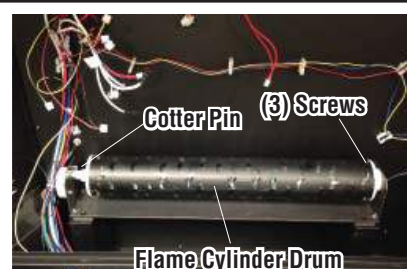
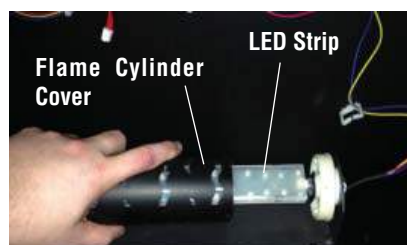

Figure 17
Figure 18
- iii. Locate flame cylinder drum (see **Figure 17**). Locate the cotter pin on left side of flame cylinder and remove it. Remove outer plastic sleeve of drum by removing the (3) screws on the right side of the sleeve. Disconnect the left side of the flame cylinder drum from the motor, and slide the outer sleeve off. you will have access to the LED strip (see **Figure 18**). **Note: do not exert excessive pressure on the drum cylinder as this may cause damage.**